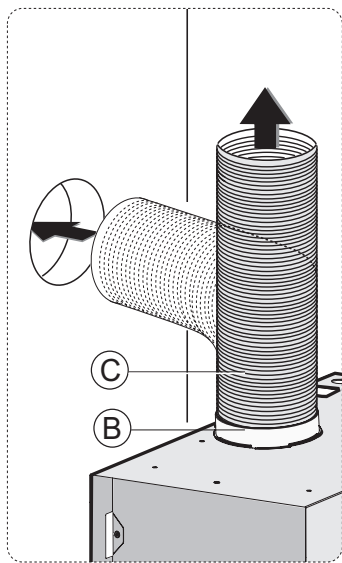

Fig.6
1. spacer **I** (Fig. 6).
To fill in any space remaining between the hood and the wall, simply position spacer **I** next to the wall and fix it in place with the 3 screws **L** as indicated in figure 6.
If you wish to convert the filter hood to an extractor model, first remove the press-fit lid **A** located above the bodywork, as indicated in figure 6.
Take flange **B** and connect it to the air outlet hole (fig. 6).
A flexible, non-flammable air exhaust hose **C** must be purchased (this hose must comply with all current legislation) and connected to flange **B**, which is only supplied for the extractor version (fig. 6).